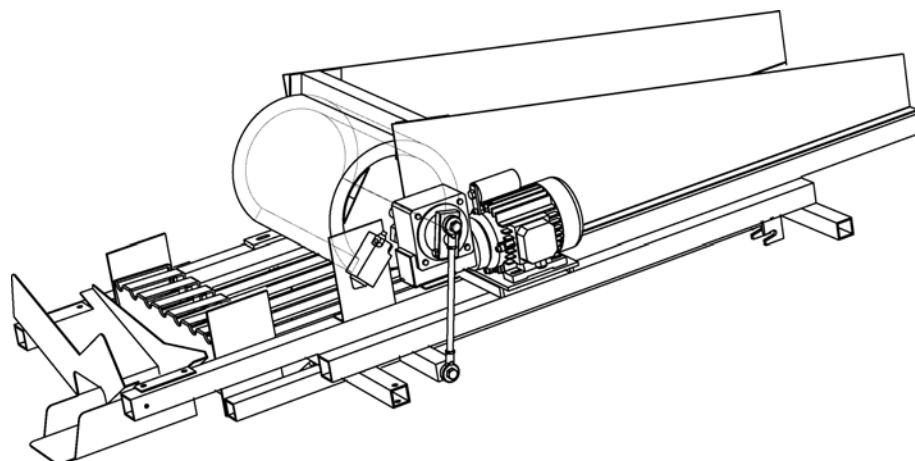

Figure R3, mechanism in stop position
In figure R3 the dispensing mechanism is in the stop position. While the brush rotated anti-clock wards, the mechanism lifted the first two rows of balls. In this position the mechanism will dispense the balls and let new balls pass under the opening in the brush. To prevent the switch from being crushed by the actuator (9), there is a 1 mm margin between the utmost position of the switch and the actuator.